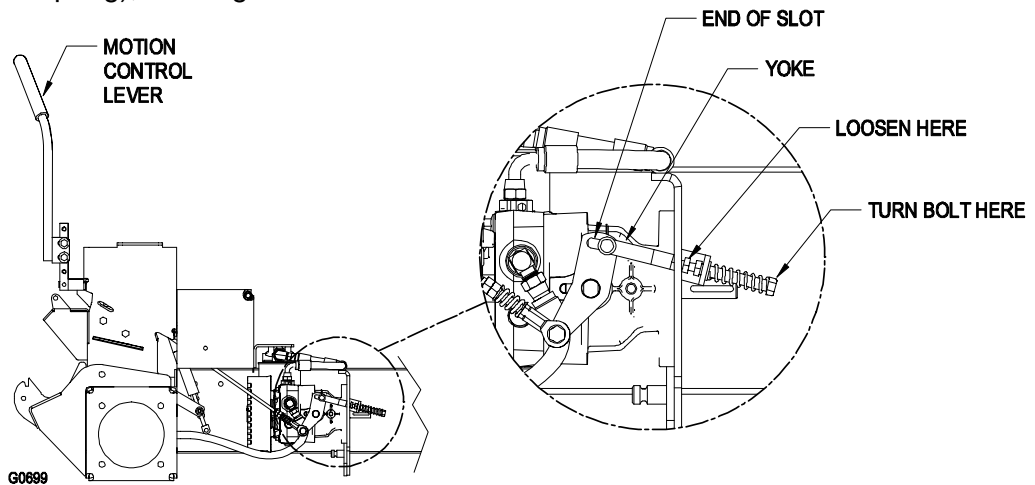

FIGURE 14
- c) Begin with either the left or right motion control lever. Move lever to the neutral position and pull lever back until the clevis pin (on arm below pivot shaft) contacts the end of the slot (just beginning to put pressure on spring), See Figure 14.